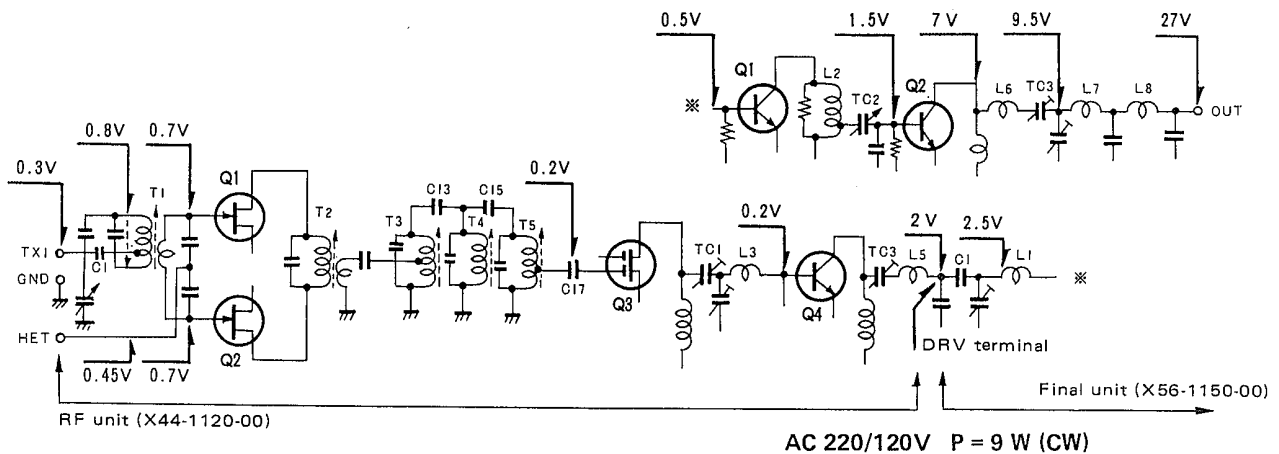

Fig. 9 Level Diagram of Transmission
Fig. 9 shows the transmission level diagram.
**NOTE:** The levels indicated in Fig. 9 were measured with RF VTVM having input capacitance of less than 3pF in the condition CW output of 9 W during AC operation